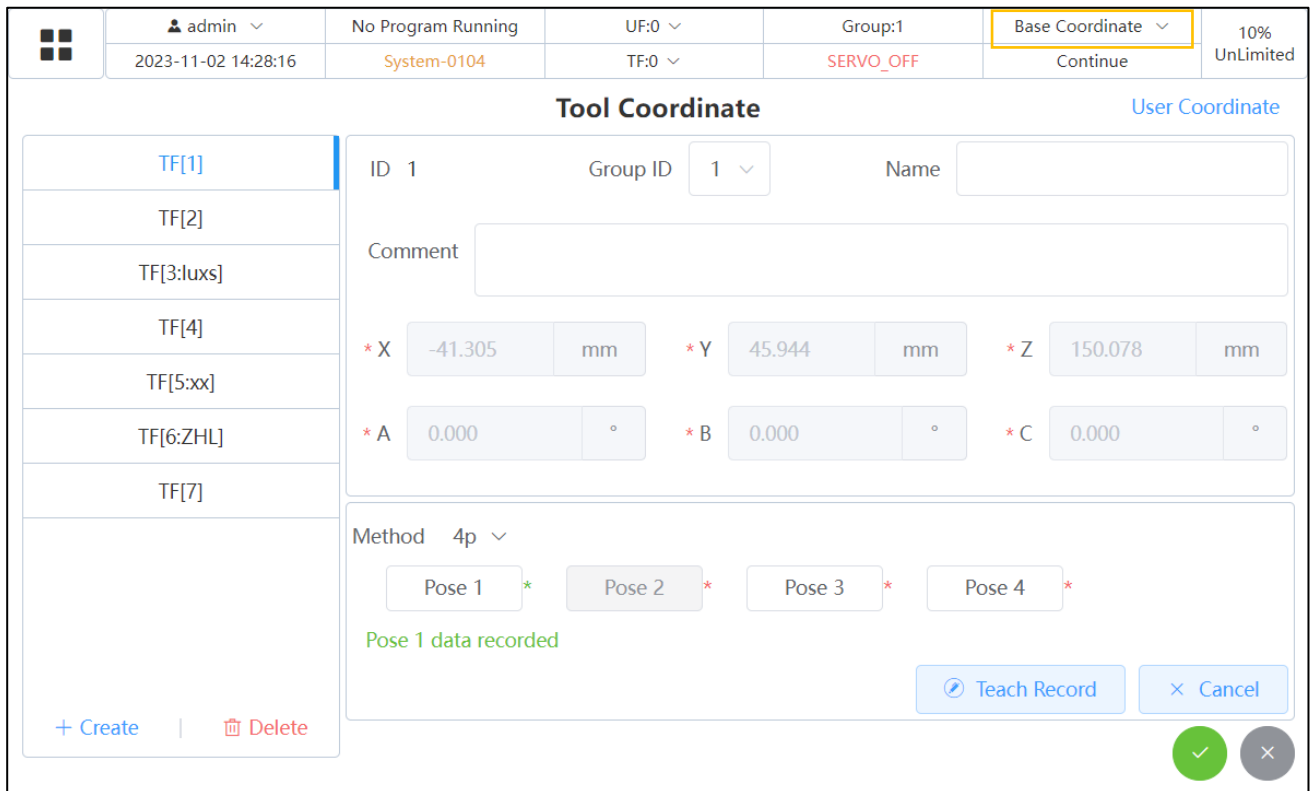
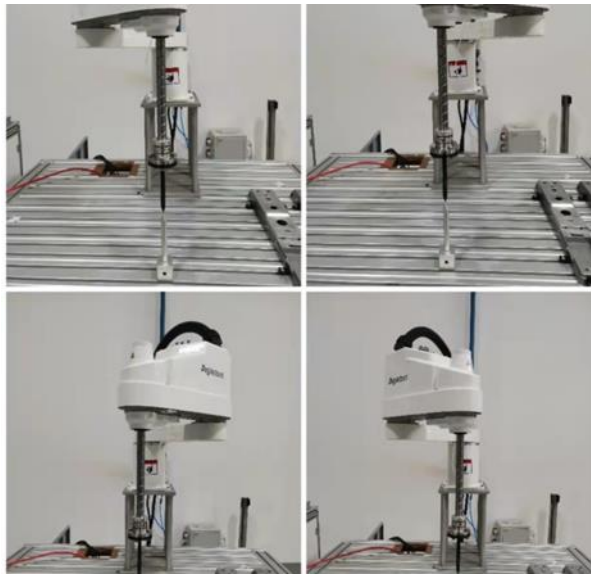

Fig. 2.20 Tool Coordinate System Setting Interface
Fig. 2.21 Reference Poses for 4P Method
- As shown in Fig. 2.20, select the "base coordinate system" as the operating coordinate system, move the tool along four different pose directions to the same reference pose as shown in Fig. 2.21, and record the poses separately.